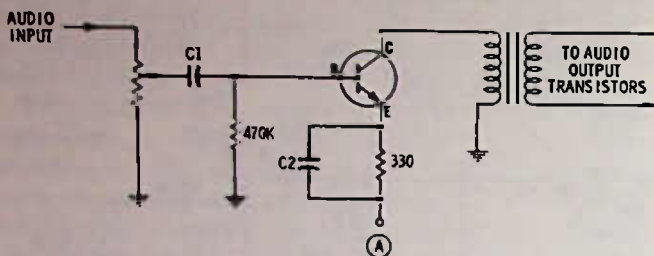

Fig. 12-15. Circuit for Questions 1 through 6.
1. In Fig. 12-15, the transistor is
2. In Fig. 12-15, the polarity of the supply voltage at point (A) should be
3. In Fig. 12-15, C1 and C2 are electrolytics. They should be connected in the circuit
B. with the + side of C1 connected to base and the + side of C2 connected to point (A).
4. In Fig. 12-15, suppose that C2 opened because of an internal defect in it. The amplifier stage would
5. In Fig. 12-15, if C1 opened, the result would be
6. In Fig. 12-15, if C1 shorted or became very leaky, the result would be